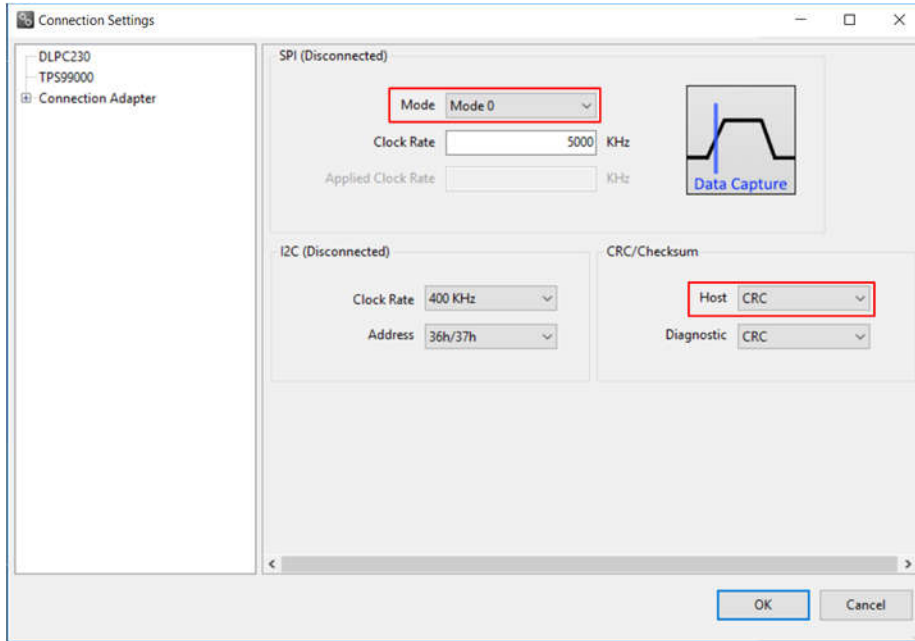

Figure 2-3. DLPC230-Q1 Automotive Control Program Communication Settings
- Select "Connection Settings" to confirm the SPI configuration shown in Figure 2-3 matches the Controller PCB switch settings described in Table 1-3. Specifically, SPI mode and CRC/Checksum may vary based on switch settings. Press "OK" once configuration is complete.